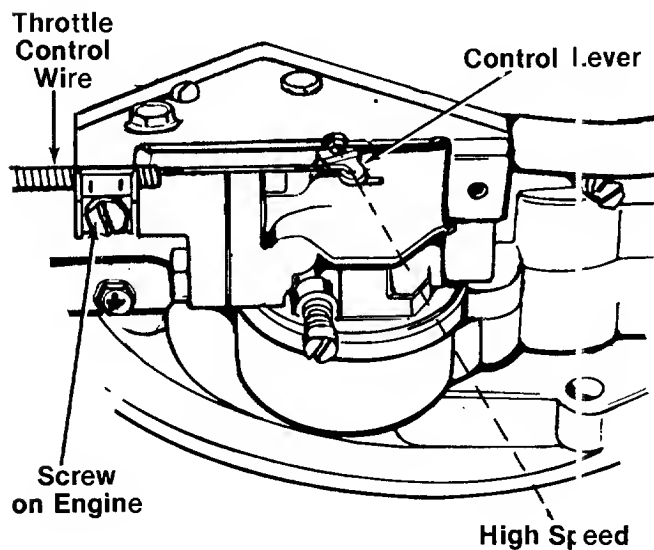

FIGURE 11.
1. Loosen, but do not remove, screw securing throttle control wire assembly at engine. See figure 11.